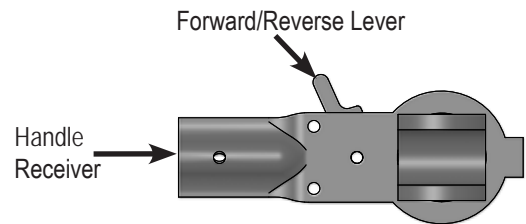

Figure 2
4. If the skid shoe is not moving in the proper direction, flip the forward/reverse lever on the handle (see Figure 2). Rotate the ratchet jack handle again to move the skid shoe in the desired direction.